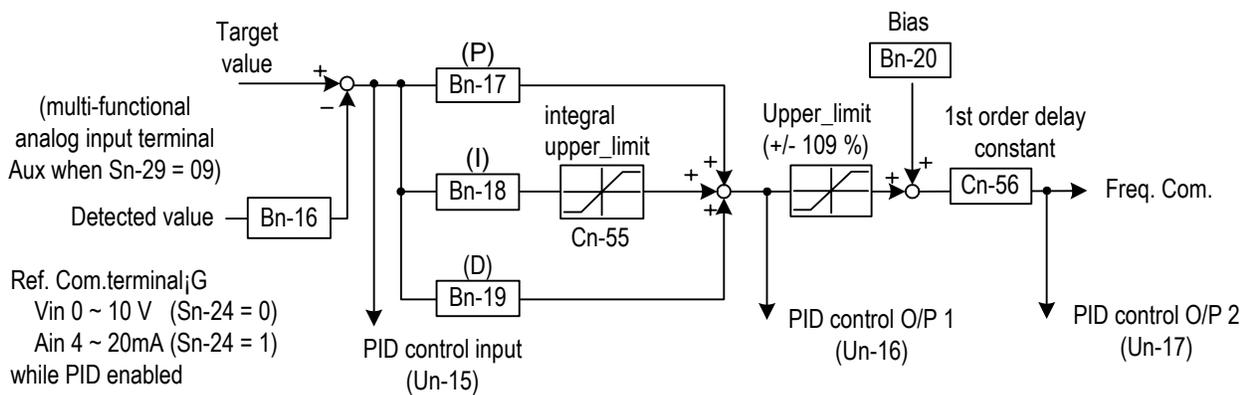

Fig. 12. Block diagram for PID control in inverter (For the version before 30.17)
(14) Multi-function Analog Output AO1 Gain (Bn-14)
(15) Multi-function Analog Output AO1 Gain (Bn-15)
(16) PID Detection Gain (Bn-16)
(17) PID Proportional Gain (Bn-17)
(18) PID Integral Time (Bn-18)
(19) PID Differential Time (Bn-19)
(20) PID Bias (Bn-20)
- The PID control function is a control system that matches a feedback value (i.e., a detected value) to the set target value. Combining the proportional (P), integral (I) and derivative (D) control make the control possible to achieve required response with the constant setting and tuning procedure of proportional gain Bn-17, integral time Bn-18 and derivative time Bn-19.
- Fig. 12 is a Block diagram of the inverter’s internal PID control.